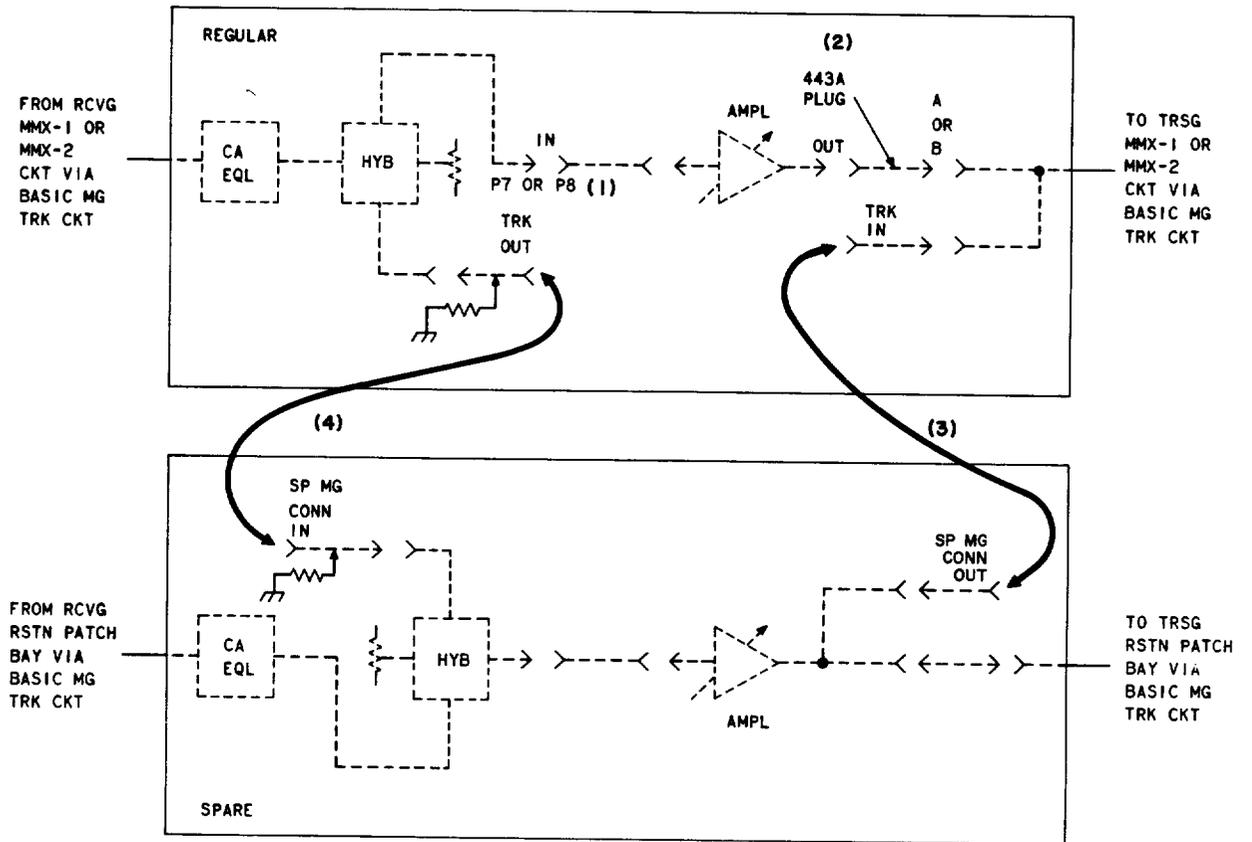

Fig. 6—Restoring Regular Equipment to Service—Patching Procedure
- Remove the P7 or P8 plug (IN) from the 75-ohm termination; insert it into PAD 1 [patch (1), Fig. 6].
- Insert a 443A plug into the OUT and A (or B) jacks [patch (2), Fig. 6].
- 19 Remove the P2EB cord from the TRK IN jack of the regular connector and the SP MG CONN OUT jack of the spare connector [patch (3), Fig. 6].
- 20 Remove the P2EB cord from the TRK OUT jack of the regular connector and the SP MG CONN IN jack of the spare connector [patch (4), Fig. 6].